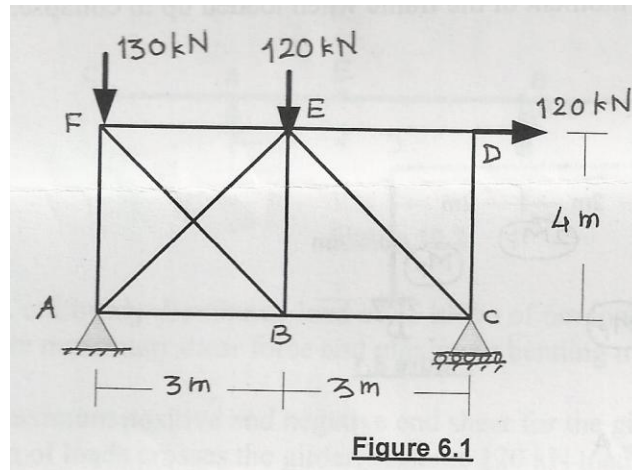

Figure 6.1
Q. No. 6: Find the forces in the members of the truss loaded and supported as shown in Figure 6.1. (16)